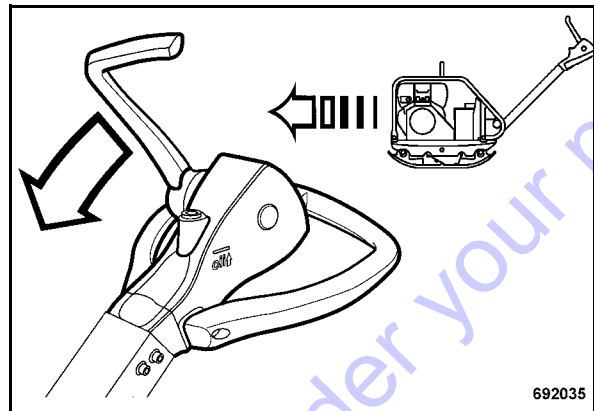

Fig. 24
- Push the travel lever (Fig. 24) forward, until the vibratory plate has reached the desired speed.